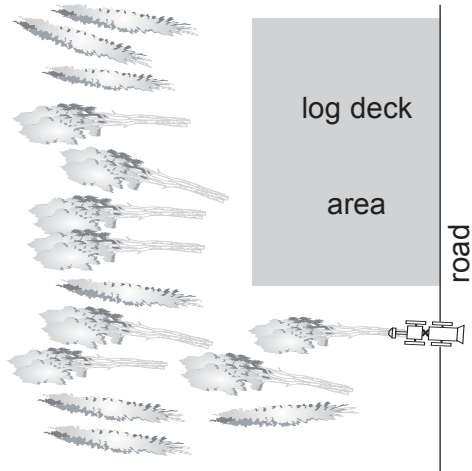

Figure 13b. Skid log deck area first to promote soil freezing.
- Harvest and skid wood that is closest to roadside first to promote frost penetration in this high-traffic area (**Figure 13b**).